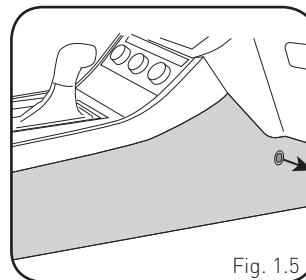

Fig. 1.5
6. Remove one (1) T20 Torx screw from the center console side panel, and release the clips to remove. (Fig. 1.5)